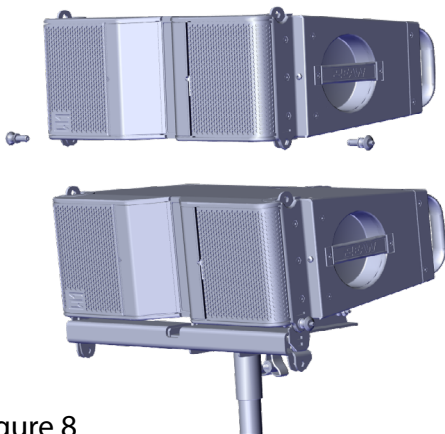

Figure 8
- For adding additional NT206L to the array, place the next module on top of the first NT206L and pin the front locations using the pins on the first cabinet (Figure 8).